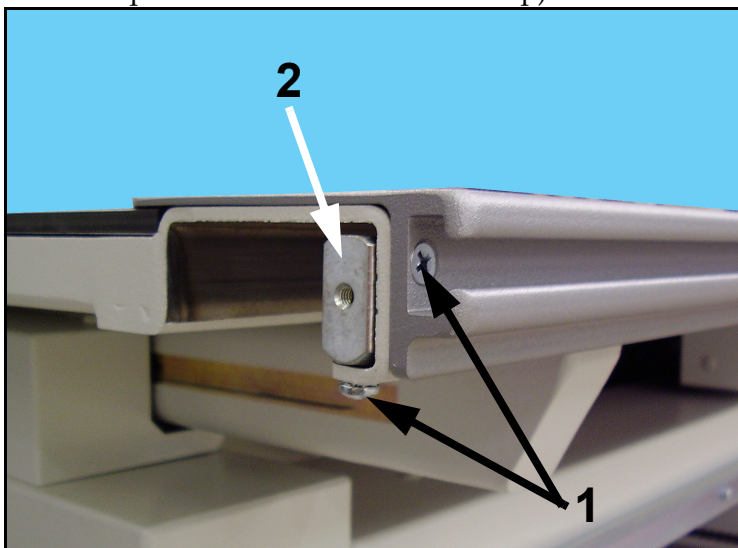

Figure 6-16. Bumper Removal
- 3 Unscrew the bumper screws (1 in Figure 6-16) and remove the bumpers (2) on one end of the table top (remove a total of two bumpers on one end of the table top).